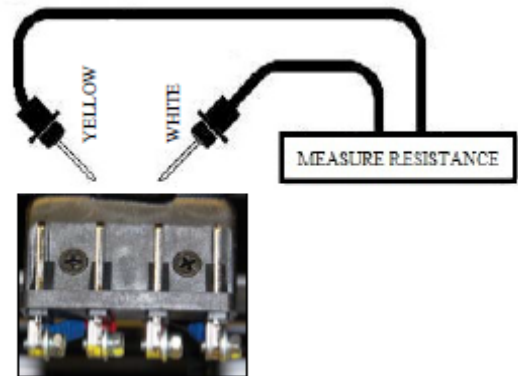

Figure 21. Connector 9
14. Measure resistance across the two inside pins on the rear intermediate harness connector (9) **with park brake engaged**. **See figure 21.**
- Open? – Check the connections at connector (9).